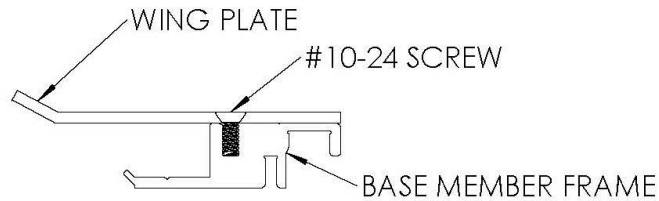

FIGURE 1
1. Remove the factory installed #10-24 screw that attaches the wing plate to the base member frame and retain for reinstallation later. *Note: The 2", 4" and 6" size this step is not necessary as the wing plate and frame are one piece.* **See Figure 1**